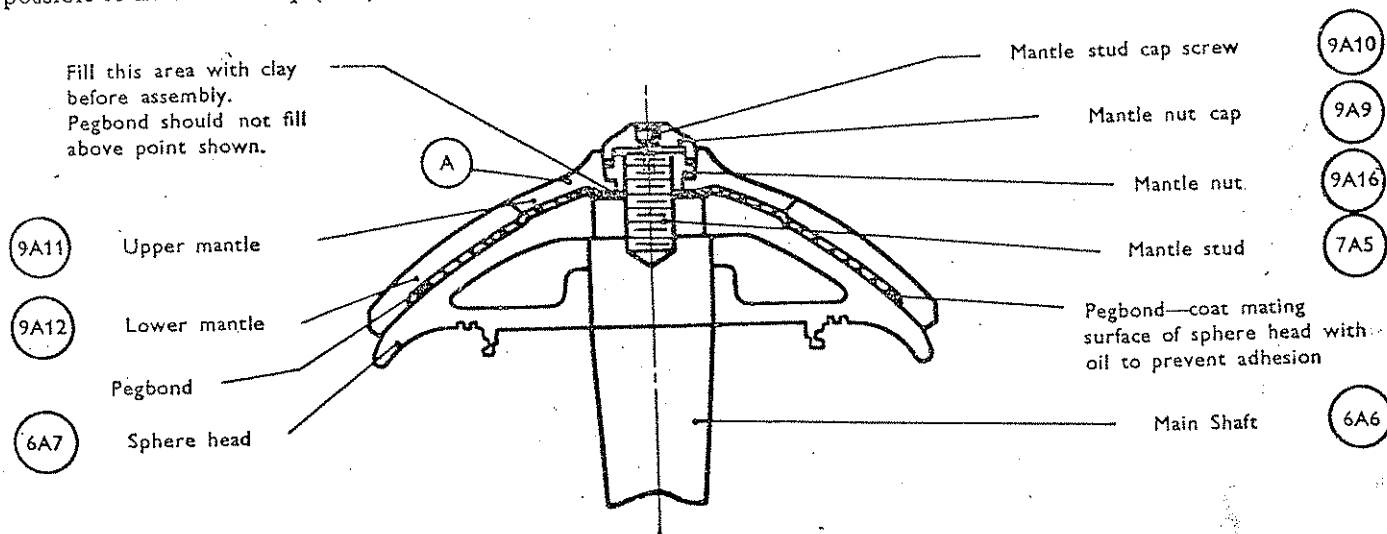

Figure 11
A. Style S Gyraspheres—See Fig. 11
Place the lower mantle (9A12) on the sphere head (6A7) turning it to a position where the grooves inside the mantle correspond with those on the head. The underside of the upper mantle (9A11) has retaining lugs; mark the positions of these on the outside surface for guidance and fit the mantle so that the lugs sit in the corresponding slots in the lower mantle. Fill the area round the mantle stud (7A5) with clay to a depth of approximately $\frac{1}{2}$ in.—see Fig. 11; this filling prevents backing liquid flowing beyond the mantles and contacting the stud threads. Screw the mantle nut (9A16) on to the mantle stud and tighten firmly with the wrench and sledge. In order to ensure that all parts are properly seated and that the assembly is tight, hit the upper and lower mantles a few times with the sledge then repeat the tightening operation on the mantle nut. When the nut is fully driven home, make sure that one of the lugs on its periphery is directly in line with one of the openings on the top of the upper mantle; otherwise it will not be possible to fit the stud cap (9A9) later.